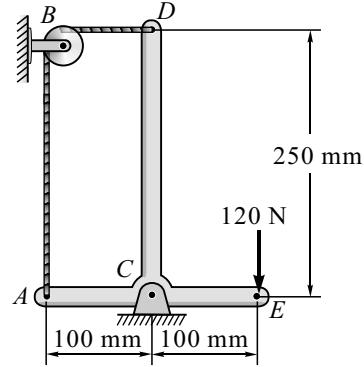

Fig. 3.E16
17. Determine the tension in cable BC , as shown in Fig. 3.E17. Neglect the self-weight of AB .